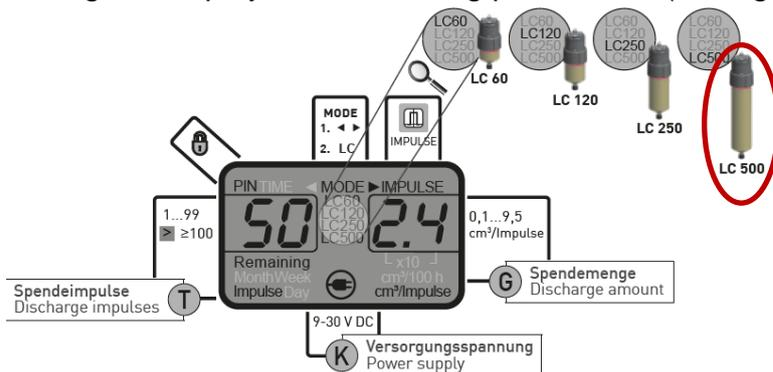

Figure 4: New display in IMPULSE operating mode with four LC variables, discharge impulses [T], discharge amount [G] and power supply [K].
- Change of display and the setting parameters (see figure 4):